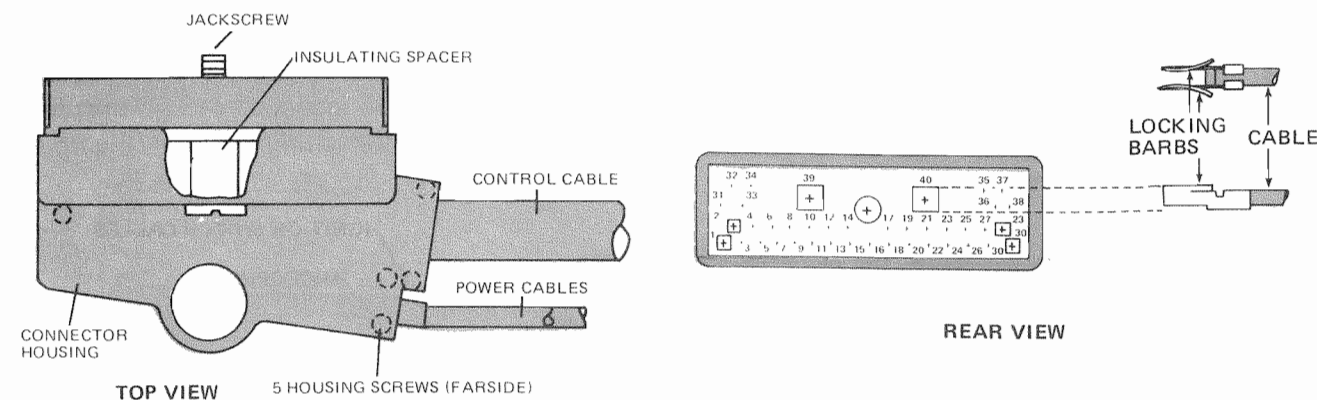

Figure 5. Connector Housing & Terminal Identification
2. For positive ground systems, the red and the black power cable terminals must be reversed at the Power/Control Cable plug assembly. Refer to the connector housing and Terminal Identification Diagram (Figure 5) and proceed as follows: